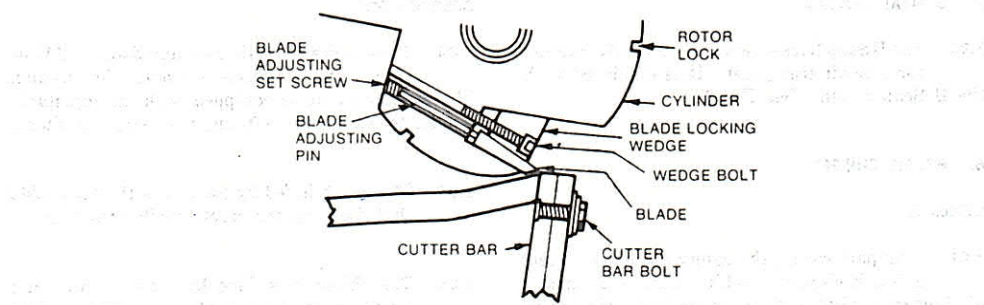

Fig. 3—Chipping Assembly
6.06 The chipping is done by a set of revolving blades that work with a shearing action against a stationary cutter bar. The chips are then blown out the exhaust chute. See Fig. 3.